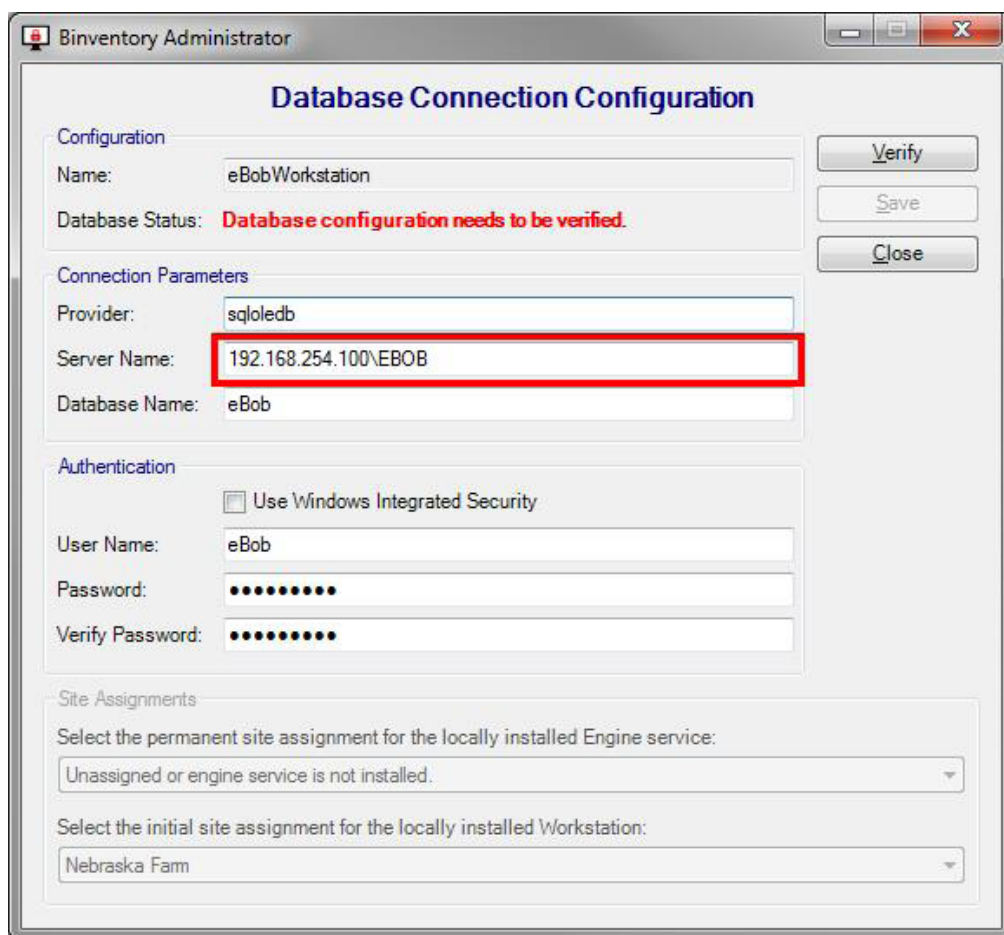

Figure 49
2. Open up Bininventory Administrator on a PC that is NOT hosting the database and note the contents of the Server Name field. See Figure 49. This may be needed to re-enter into Bininventory after the upgrade.